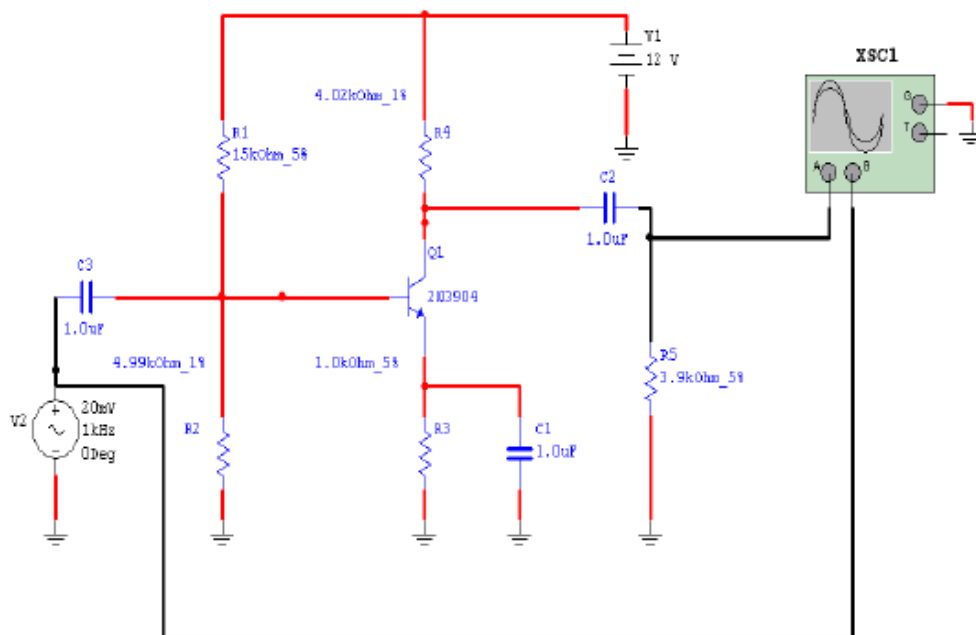

Fig.13 Common Emitter (CE) Amplifier
- Construct the circuit shown in Fig.13; with the above presented components.